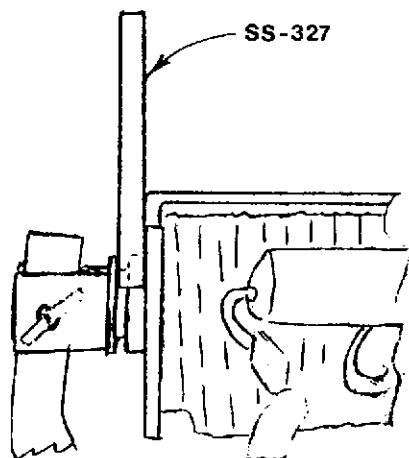

Figure 3-41. SETTING SOLENOID STROKE
a. Reverse, Project and Rewind solenoid (S0-1). Insert SS-327 in solenoid armature mechanism (Fig. 3-41) to shorten stroke 0.050". When armature is held in and clutch actuator paddle is eyeball vertical, tighten solenoid mounting screws. At this time, clutch will be slightly engaged - you should feel drag when rewind spring belt is pulled. (See Fig. 3-41).